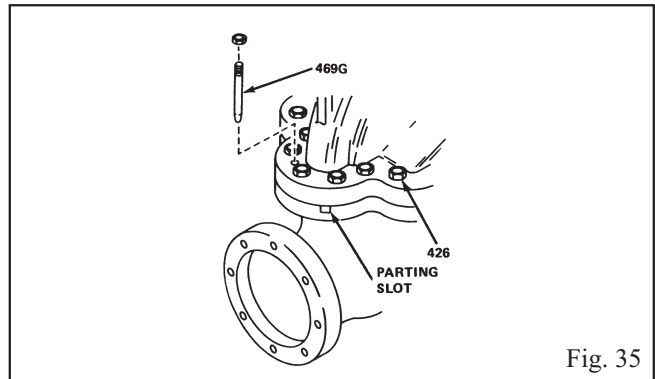

Fig. 35
8. Remove casing screws (426) and nuts (425). Remove Dowel Pins (469G). Loosen top half by:
- S Group – Insert a prying tool into parting slot, Fig. 35, pry upper casing half loose. Repeat on other side as required.